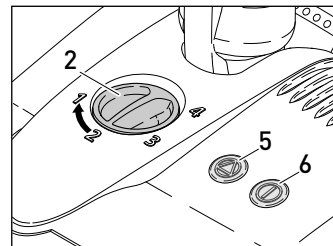
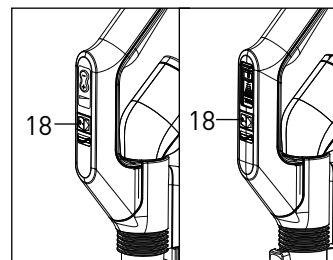
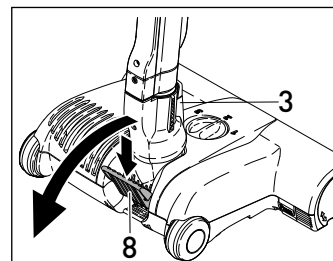

Figure 4
Figure 5 - on/off power switch on handle
Figure 6
Operating The Power Head Without Foot Switch - Figures 4, 5 & 6
A. The power head may be switched on by pressing the button on the handle of the telescopic tube (figure 5). When the power head is switched on with the swivel neck (#3, figure 6) in the upright locked position, the brush roller will not spin. To release the power head from the upright locked position, press down on the foot pedal (#8, figure 6) and lower the swivel neck into the normal operating position. The brush roller will then start spinning and the on/off light on the power head will illuminate in green. The handle can be lowered to a horizontal position useful for vacuuming under beds.
B. To switch from brushing action to straight suction for delicate floors, press the brush roller on/off switch (#18, figure 5) on the handle of the telescopic tube. This will power off the brush roller on the power head. The brush roller indicator light on the power head will turn off until the on/off switch is turned on again.
Operating The Power Head With Foot Switch - Figures 4 & 6
A. When the power head is switched on with the swivel neck (#3, figure 6) in the upright locked position, the brush roller will not spin and the on/off light will illuminate in yellow. To release the power head from the upright locked position, press down on the foot pedal (#8, figure 6) and lower the swivel neck into the normal operating position. The brush roller will then start spinning and the on/off light on the power head will illuminate in green. The handle can be lowered to a horizontal position useful for vacuuming under beds.
B. To clean delicate or hard floor surfaces with straight suction only, the power head is equipped with an on/off foot switch (#6, figure 4). When this switch is used to turn off the brush roller, the green light will change to yellow, indicating to the user that the brush roller is not turning. Pushing the button again will turn on the brush roller and the light will turn green.
The Brush Height Adjustment Feature - Figure 4
Indicator Lights - Figures 4, 6 & 7
By pushing the foot pedal (#8, figure 6) and lowering the swivel neck, you activate the power head and the brush begins spinning. Failure to use the foot pedal will cause lasting damage to the machine. The electronic brush control constantly monitors the status of the brush, communicating the status through the lights on top (figure 4).
4. Models without foot switch: The on/off switch on the handle of the telescopic tube is in the off position.	4. Models without foot switch: Press the on/off switch on the handle of the telescopic tube to turn the power head on. See figure 5, page 6.
4. Models with foot switch: The on/off switch on the power head is off.	4. Models with foot switch: Press the power head brush on/off switch. See figure 4, page 6.